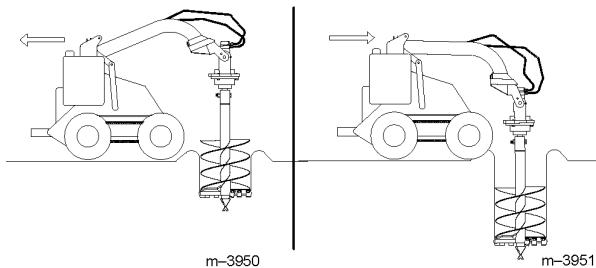

Figure 9
4. Lower the auger slowly as the soil is loosened. As you dig deeper, move the traction unit backward or forward as required to keep the hole vertical (Fig. 9).